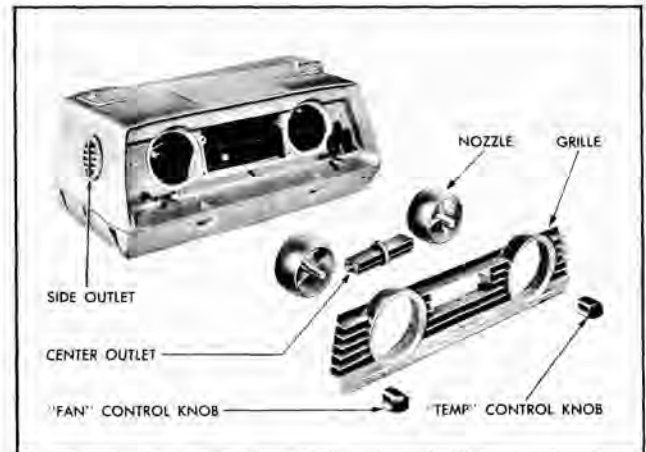

Fig. 6-28 Grille and Nozzles—Exploded View
3. Remove grille to gain access to nozzles and center outlet (Fig. 6-28).